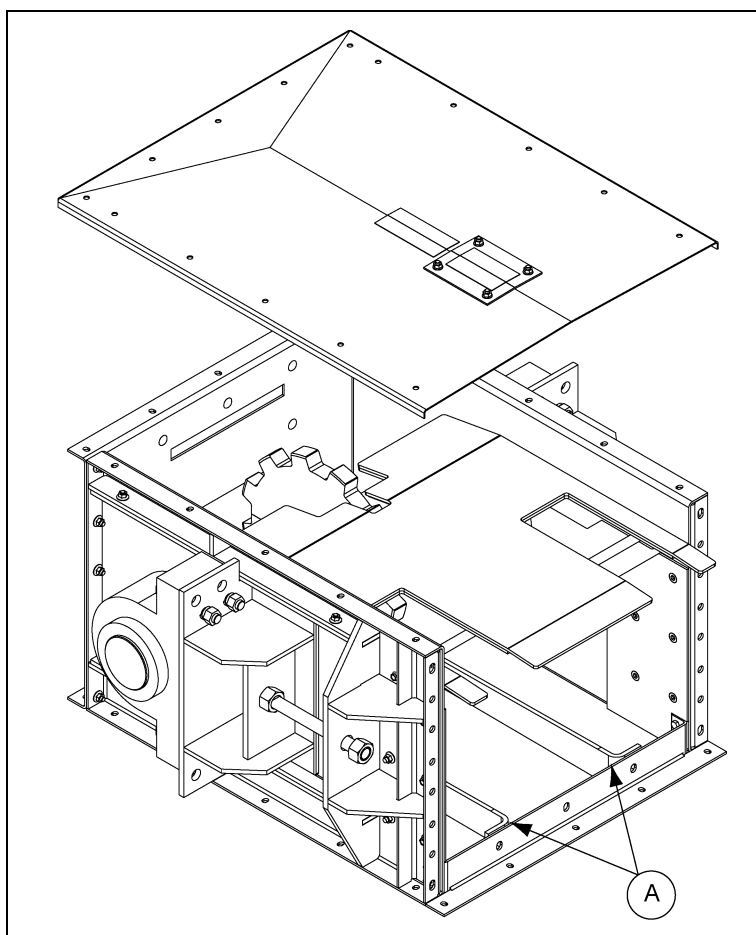

Figure 10F *Reversing Take-Up Head with Carry-Over Bars*
On reversing conveyor applications, carry-over bars (A) should be installed in both discharge assemblies. These bars help ensure a smooth transition of the chain and flights from the head discharge into the conveyor box. (See Figure 10F on Page 49.)